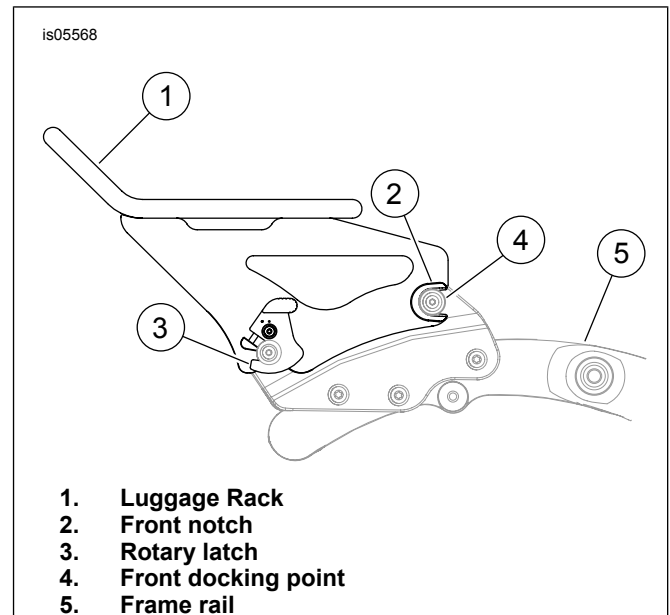

Figure 1. Luggage Rack
2. See Figure 1. While standing behind the motorcycle, place the rack side plate notches (2) into the forward docking points (4). Make sure the notches seat fully into the mounts.
The docking points must be fully engaged. See Figures 1 and 2 for correct engagement. If docking points are not fully engaged, it could shift position or come loose during operation.